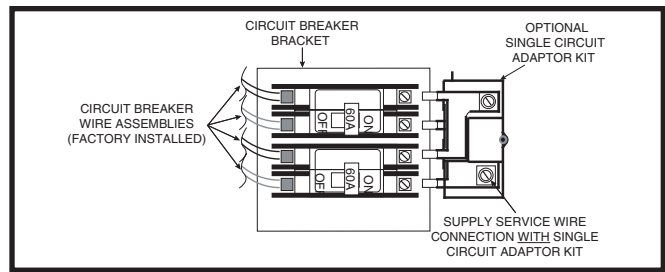
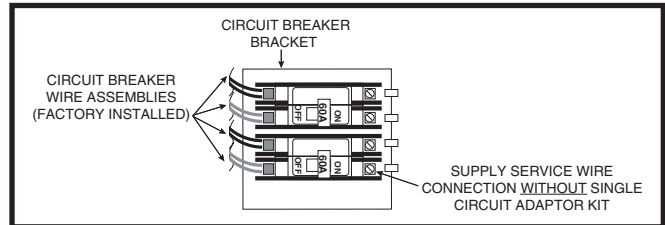

Figure 16. Optional Single Circuit Adaptor Kit
Figure 17. Installation of Supply Service Wires
- -012 models are factory-wired for single-branch supply circuit (single-circuit kit factory installed). Dual-branch circuit can be used by removing factory-installed single-circuit kit. See Figure 16.
4. Insert supply service wire(s) through cable connector(s) and connect wires to circuit breakers (Figure 16 & Figure 17). **NOTE:** To install single-circuit kit, perform step 5. If single-circuit kit installation is not needed, go to step 6.